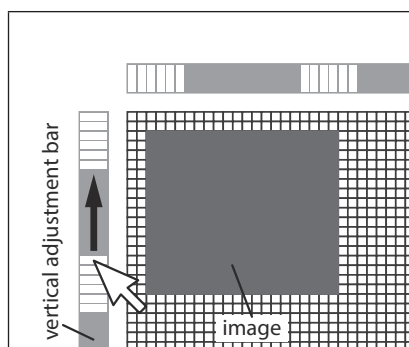

Fig. 99
2. Click and hold down on the left mouse button whilst moving the cursor up and the individual pixels will highlight (in white) one by one up the bar, as shown in **Fig.99**.